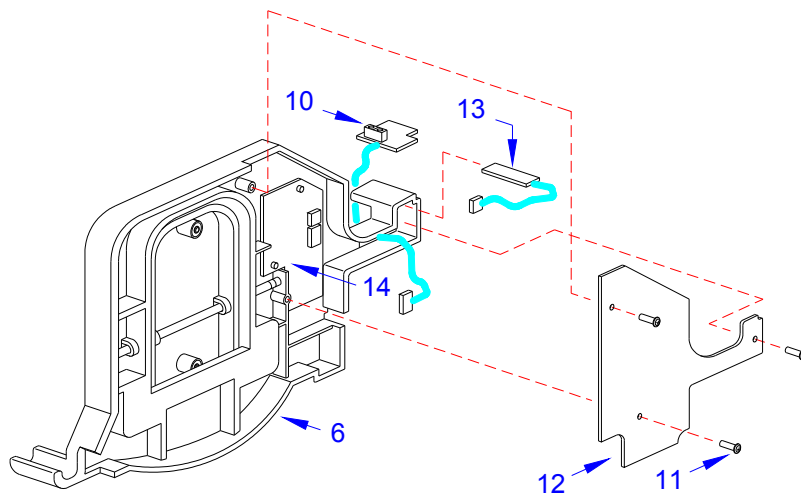

Figure 4-8b, Label Sensor Replacement
- 8 Remove three screws (11) (See Figure 4-8b) securing the cover (12) to the left-side media holder (6).
- 9 Disconnect the wiring harnesses of the defective sensors (10&13) from the sensor board (14).
- 10 Insert replacement sensors (13&10) into the left-side media holder (6) and connect their relative wiring harnesses to the sensor board (14).